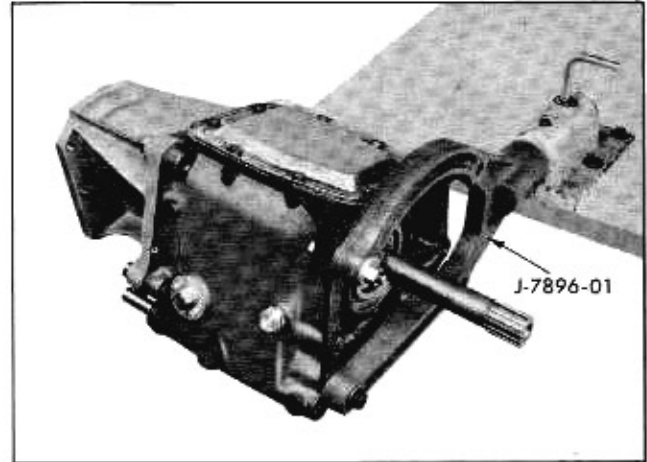

Fig. 7-22 Transmission on Holding Fixture
1. Mount transmission on holding fixture J-7896-01 (Fig. 7-22) and remove extension assembly. Do not scratch or dent mounting surface.